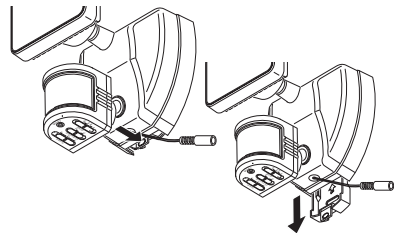

Figure 1
1. Press the bottom tab of the wall mounting plate and slide the mounting plate from the light body (see Figure 1).